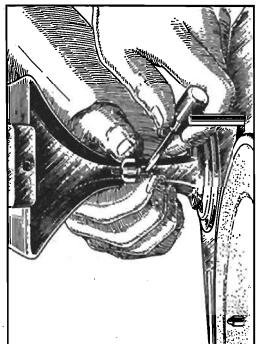

Figure 2—Adjusting height of tone arm
5. Place a Home Recording needle into the pickup as far as it will go. Then lower the pickup on the side of the turntable. The needle should extend from 1/8" to 1/16" below the top of the metal edge of the turntable. If it does not, an adjustment can be made by means of a screw located under the tone arm. Lifting the arm provides accessibility to the screw. See Figure 2.